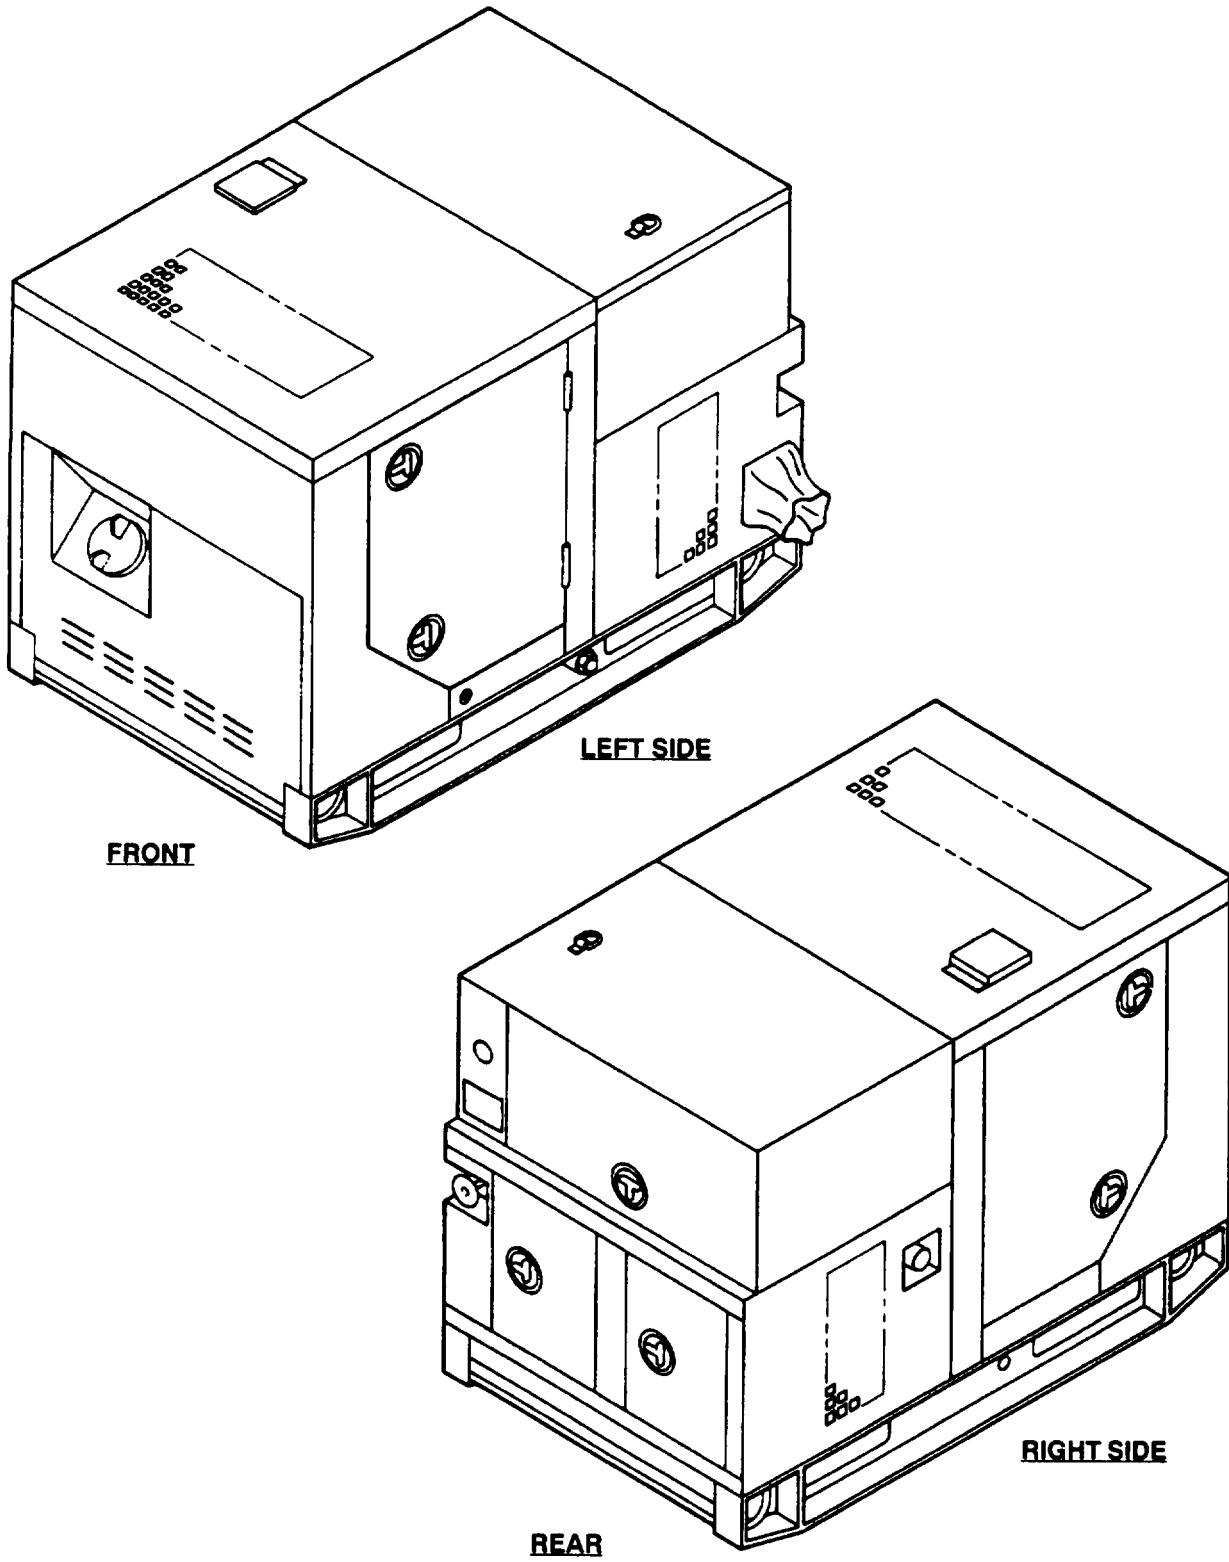

Figure 1-1. Generator Set, 5 kW, Tactical Quiet
This manual contains Unit, Direct Support and General Support maintenance instructions for the Tactical Quiet (TQ), 5 kW 60 and 400 Hz Generator Sets (FIGURE 1-1), herein referred to as generator sets. Included are descriptions of major components and their functions in relation to other components.
The generator sets, models MEP-802A and MEP-81 2A, (Figure 1-1) are fully enclosed, self-contained, skid-mounted, portable units. They are equipped with controls, instruments, and accessories necessary for operation as single units. The generator sets consist of a diesel engine, brushless generator, excitation system, speed governing system, fuel system, 24 VDC starting system, control system and fault system.